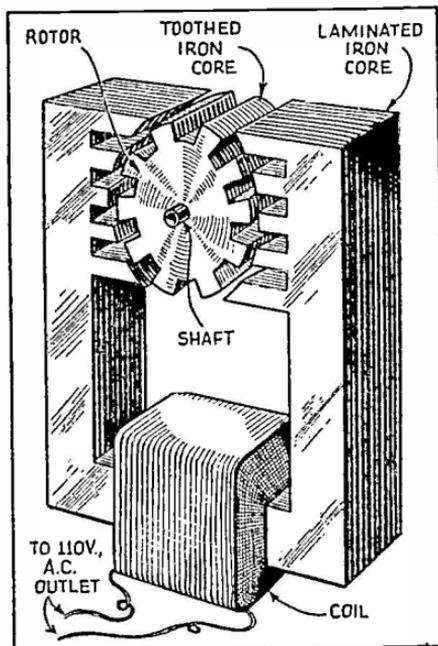

Fig. 32. Construction of a synchronous motor as used in electric clocks. Note the laminated iron core and toothed rotor.
**SYNCHRONOUS MOTOR.** Most of the electric clocks have motors of this type. These motors are very simple and easily constructed. Fig. 32 illustrates how this can be done from an old audio frequency trans-